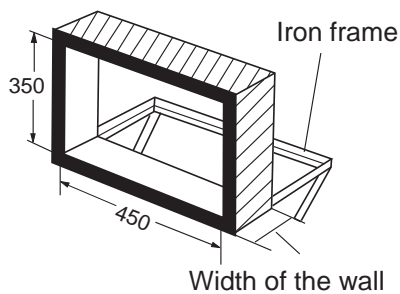

Fig. 4
**1. Make the wall hole or window hole (see Fig. 4)**